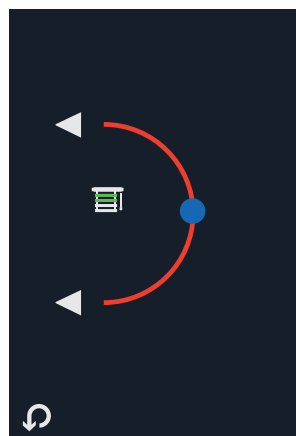

Fig. 10b 'Tilt'
- rotary movement "Tilt" (Fig. 10b)